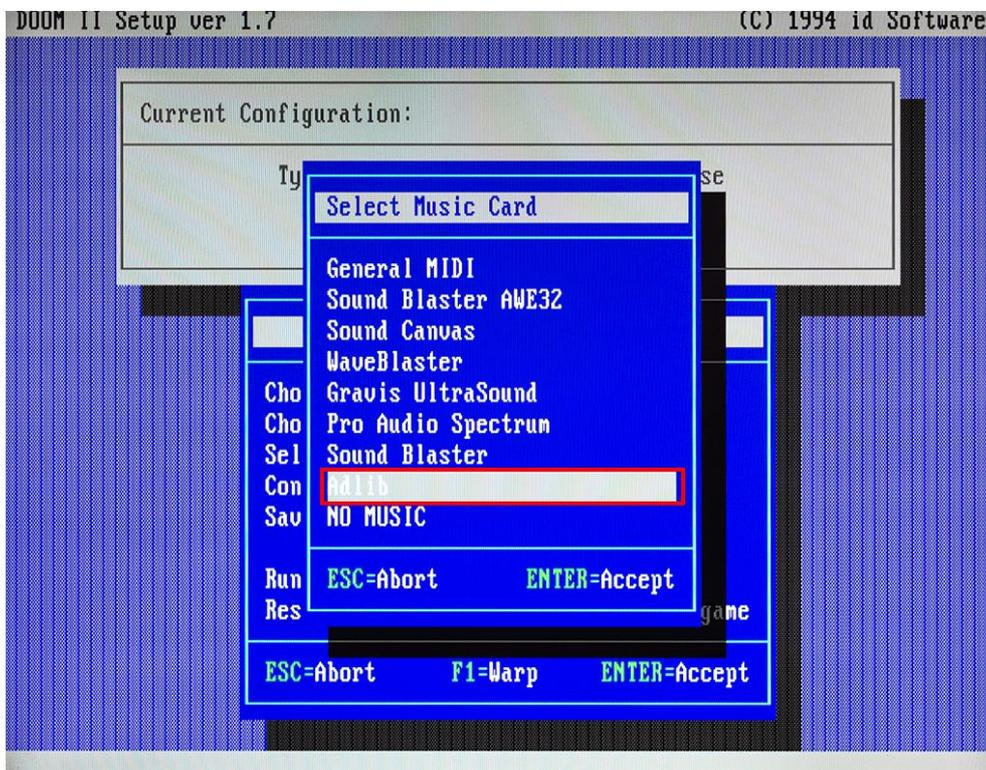

Figure 13. Select Adlib Music Card in Doom II Setup
- 6) In your game's Setup choose «Adlib» as «Music Card» to use OPL3 chip for playing music (Fig. 13):